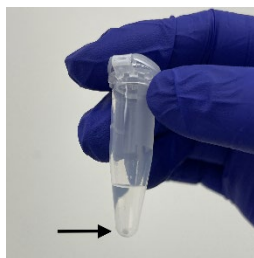

Figure 8. Example of the bead pellet after dissociation and centrifugation.
9. Spin the beads down for 2 min at 3,000g at room temperature. A white bead pellet should be visible to the eye (Figure 8).